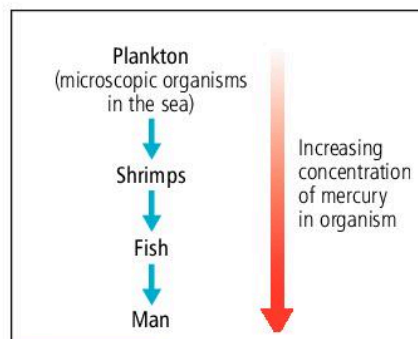

Figure 15.6.2 The concentration of mercury increases along a food chain.
- Mercury can be spilled from broken thermometers in hospitals and laboratories. Mercury and its compounds are particularly poisonous to fish and it can accumulate in the food chain and eventually poison humans (Figure 15.6.2).